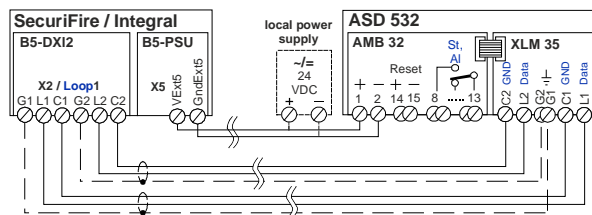

Fig. 38 Connection from XLM 35
- The connection and line routing between **XLM 35** and the SecuriFire and Integral FACP is to be carried out in accordance with Fig. 38 (L1 to L1, C1 to C1, etc.).